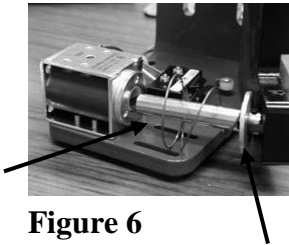

Figure 6
6. The washer and spring needs to be inserted on the plunger. Put the washer on first and follow up with the spring. The spring should be inserted so the narrow side touches the washer with the wider side contacting the solenoid. Push the plunger into the solenoid. See Figure 6